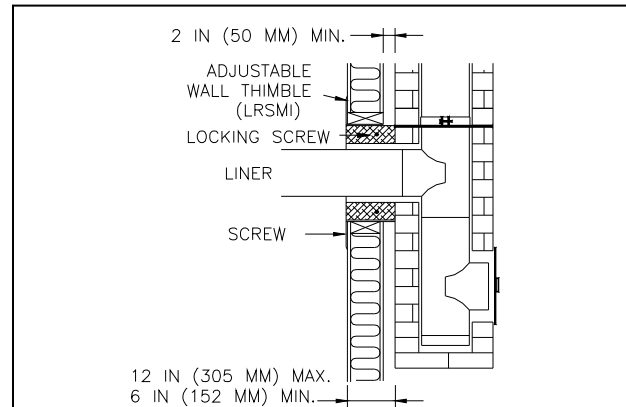

Fig. 6
- Adjust the insulated wall radiation shield length to fit the wall thickness and lock the two parts together with three (3) screws supplied.
- Slide the wall radiation shield (LRSMI) over the length and fix it to the wall using four (4) screws supplied (fig. 6).